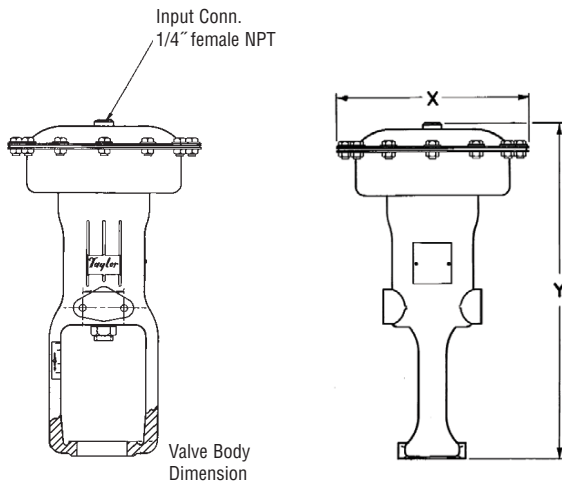

Figure 3. Mounting Dimension for Air-to-Lower Actuator
2.2 Pneumatic Connections - Connect the input pressure to the 1/4" female NPT port on the top of an air-to-lower actuator or under the diaphragm casing on an air-to-raise actuator, Figure 3 or 4. Either pipe or tubing may be used for the air line. The input pressure must not exceed the limits listed under the specifications.